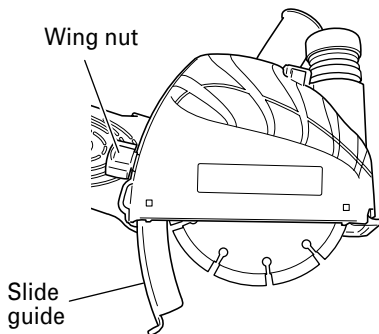

Fig. 3
8. Cutting depth adjustment (Fig. 3)